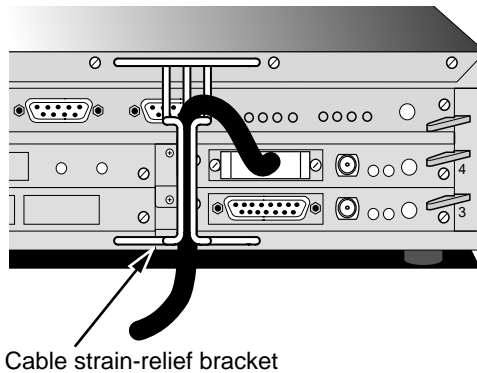

Figure 1-7 Routing Cables through the Strain-Relief Bracket on the 4-Slot Chassis
- Route all cables from the I/O modules through the two arms of the bracket from top to bottom, as shown in Figure 1-7.